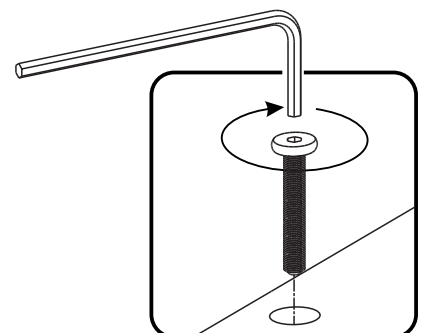

Figure 4
Attach Base (W) to unit with Head Cap Bolts (long), then flip Locks. (See Figure 4)